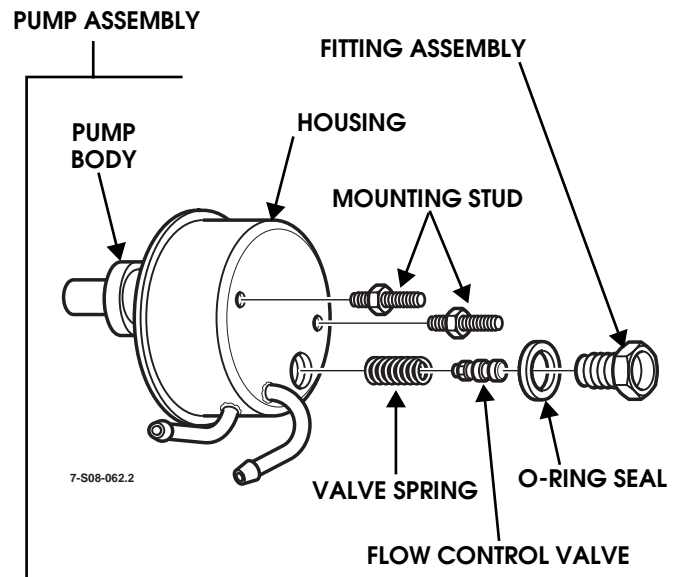

Figure 8-83: Final Assembly
- 19. Install two mounting studs on pump assembly. Tighten studs to 35 N.m 26 Ib-ft) (Figure 8-83).